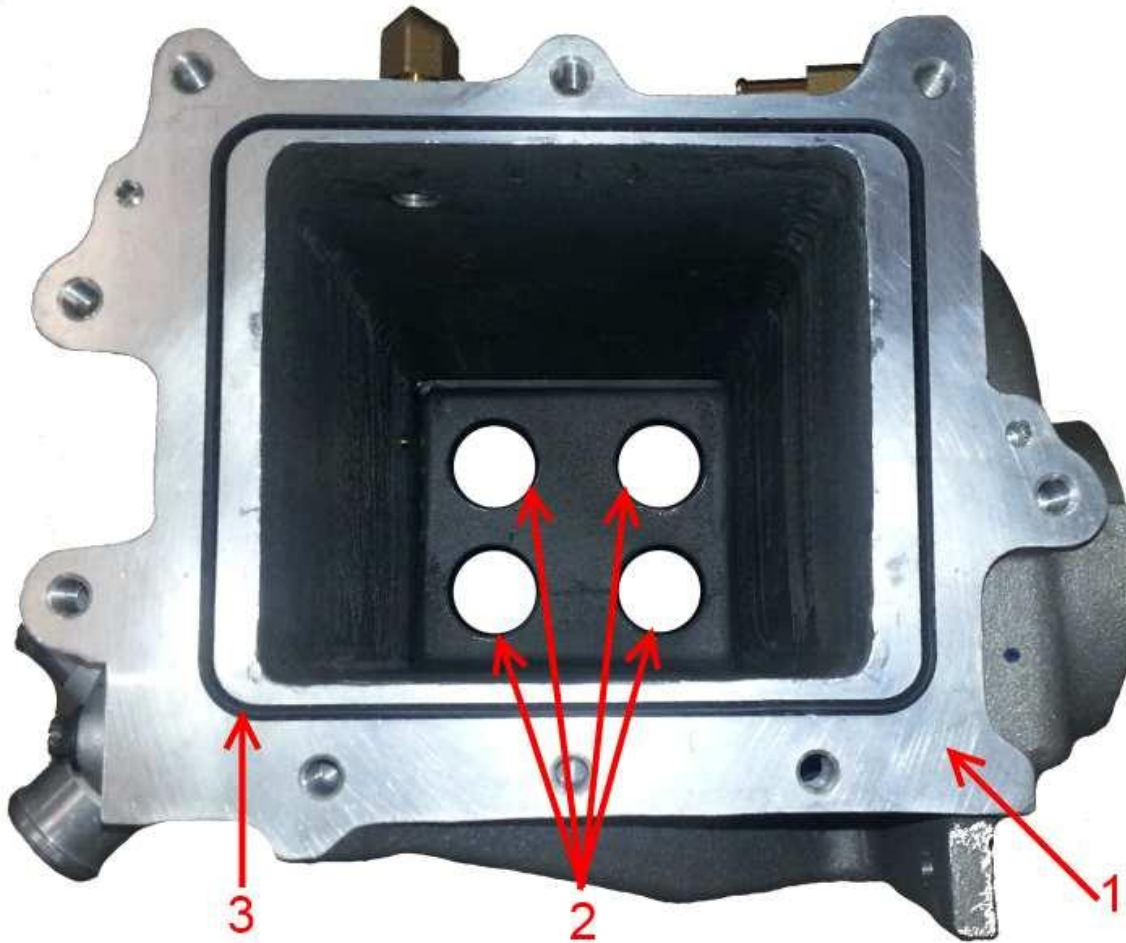

Figure 15: Low Temp Cooler Housing Face
1. Install the new seal into the LT housing (**Figure 15**, Item 3).
3. Install the new o-rings from the LT core kit (**Figure 15**, Item 2).